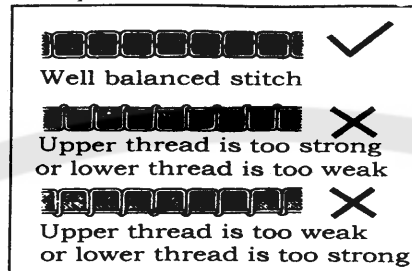

Fig.5
- (1) Removing: Open the shuttle race cap and the bobbin holder, then take out the bobbin.
- (2) Installation: Put the bobbin in the rotary hook case, Permit about 5cm of bobbin thread to hang down freely. Install the bobbin in the bobbin case so that the thread wound direction is clockwise. Then close the rotary hook and the shuttle race cap.
9. ADJUSTMENT THE THREAD TENSION (Fig.5)